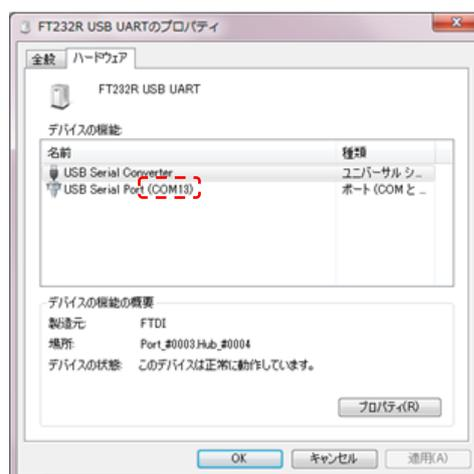

Figure 6 - COM Port No.
(8) Click the "Hardware" tab on the "Properties" screen and check the displayed COM port number (Figure 6). Write down this number as this is necessary for initial setup of the data management software. (See Sec. (5-1) (5)).